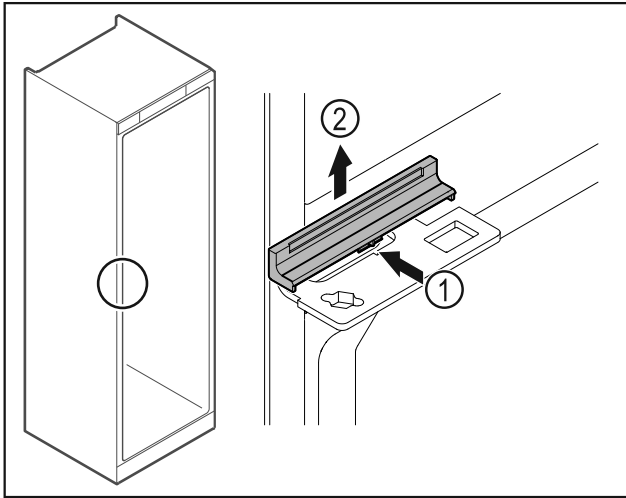

Fig. 47
- Gently press the middle of the cover Fig. 47 (1) and lift it off Fig. 47 (2).